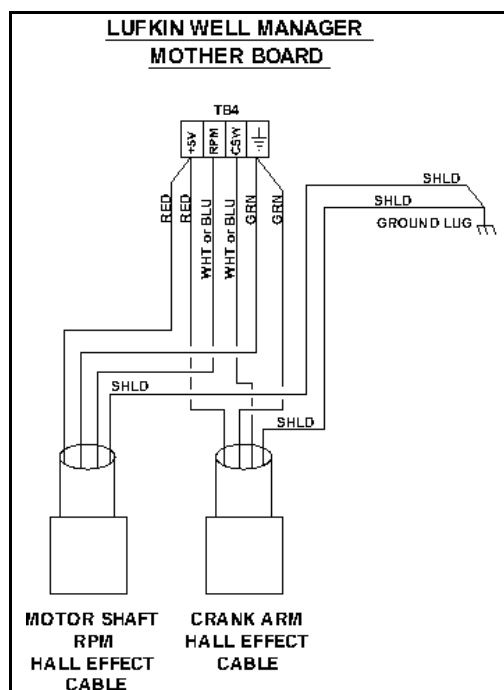

Figure 7-11. Hall-Effect Transducer to Lufkin Well Manager RPC Wiring Diagram
Hall-Effect transducer cables are a molded assembly pre-wired at the sensor end. The only field wiring necessary is to connect the leads at the Lufkin Well Manager RPC. Use the following procedures to route and wire the cable from the Hall-Effect transducers to the Lufkin Well Manager RPC. Consult the wiring diagram in Figure 7-11.
- Insert the wires in the appropriate terminal in **TB4**. Consult Figure 7-11. Take care that the white lead from the cable marked **RPM** is inserted in terminal 2 (**RPM**), and that the white wire from the cable labeled **Crank** is inserted in terminal 3 (**CSW**).